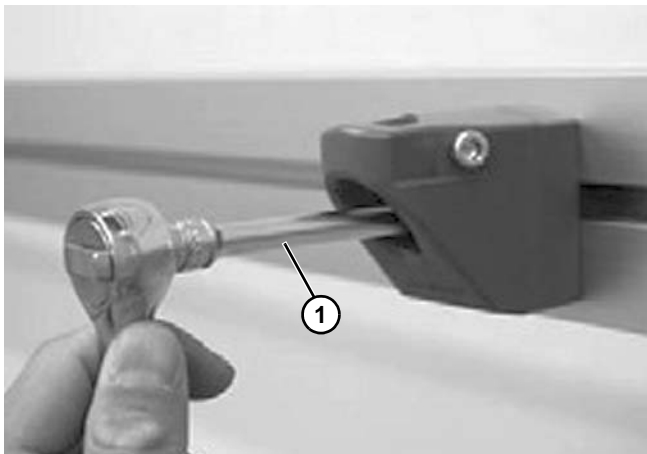

Figure 83
2. Attach the bracket onto conveyor beam and tighten with a socket wrench (Figure 83, item 1).